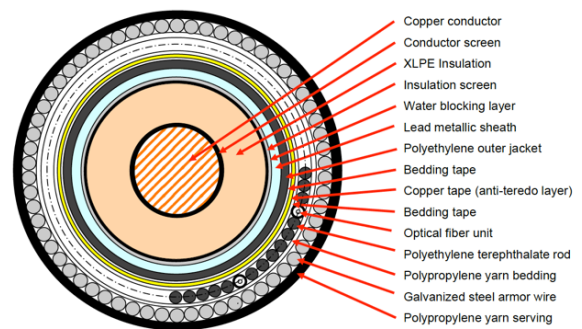

Figure 1 Cable Construction with fiber layer under armour
The construction of the 400kV HVDC subsea XLPE cable is shown in Figure 1. Details of the electrical part of the system is provided in other references [3]. 16 Single Mode (SM) fibres were incorporated into the optical fibre units in pairs and some further Multi-Mode (MM) fibres for greater DTS resolution close to shore and on land.